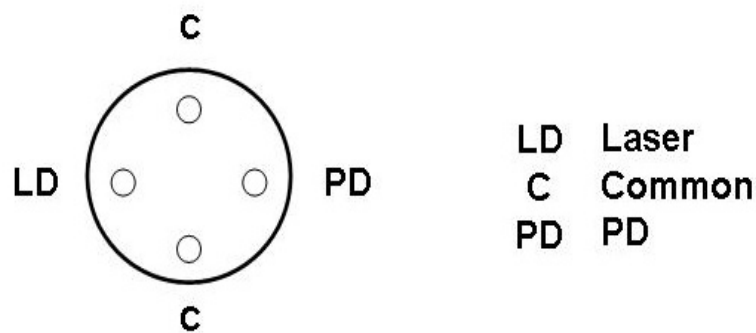
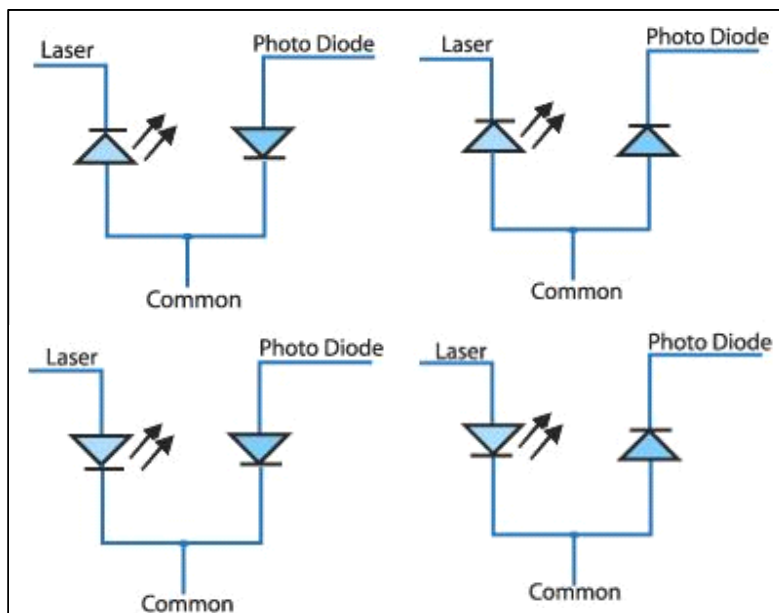

Figure 4.4 Pin Configuration Key
Figure 4.5 Pin Configuration Combinations
The standard fixture accommodates two-, three-, and four-pin TO-can laser packages. Lasers must be loaded with the pin orientation according to Figure 4.4. This diagram also appears on the fixture circuit board for quick reference.
It is critical that the lasers are installed according to the diagram in Figure 4.4. The laser pin inserted into pin one can be either the anode or the cathode. Likewise, the photodiode (PD) pin inserted into pin three can be the anode or cathode. The exact laser/PD anode/cathode connection combination is declared in the ReliaTest software when the device types are configured; Figure 4.5 shows the four laser/PD connection combinations available on the standard fixture. For more information on setting the pin configuration in the software, refer to Chapter 5.